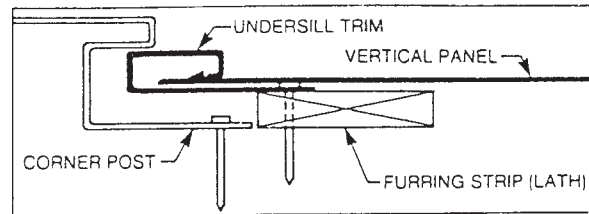

FIG. 32 Snapping Panel Cut on Flat Surface into Undersill Trim
10.9.2 If the panel is cut on the flat surface, place a piece of undersill trim, backed by furring, into the receiver of the corner post. Punch snap locks along the cut edge of the panel at 6-in. (152-mm) intervals and snap it into the undersill trim. (See Fig. 32.)